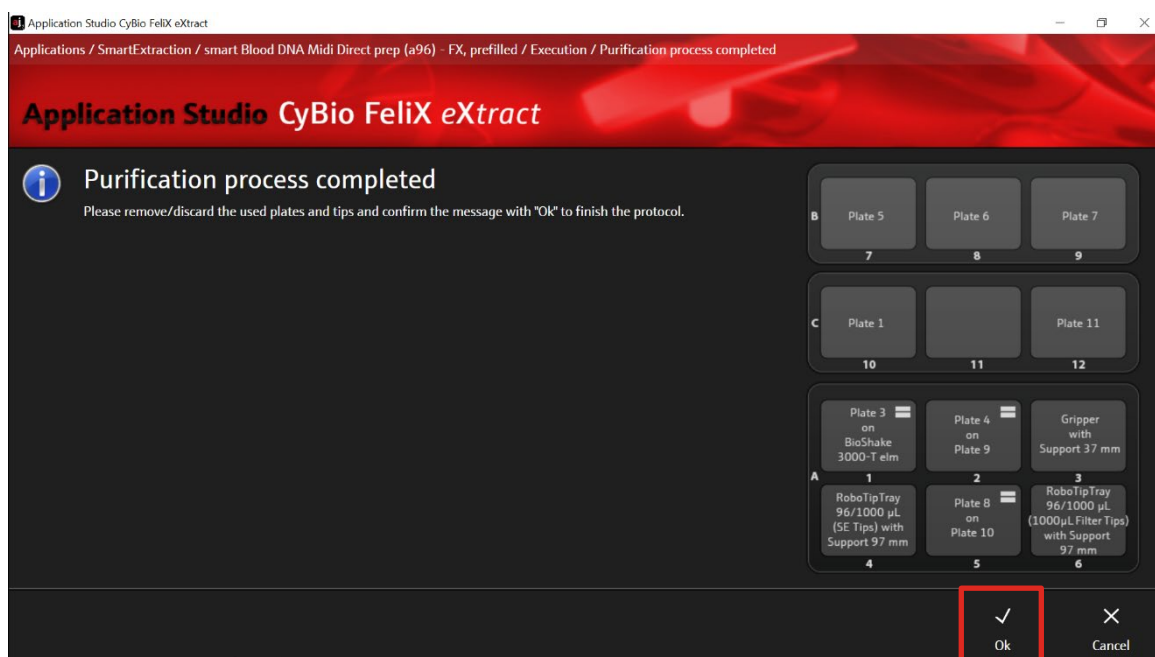

Figure 9: Process completed.
9. The chosen protocol is performed by the device. When the protocol is finished, the message "Purification process completed" is displayed. Confirm the message with "Ok" (→ see Figure 9).